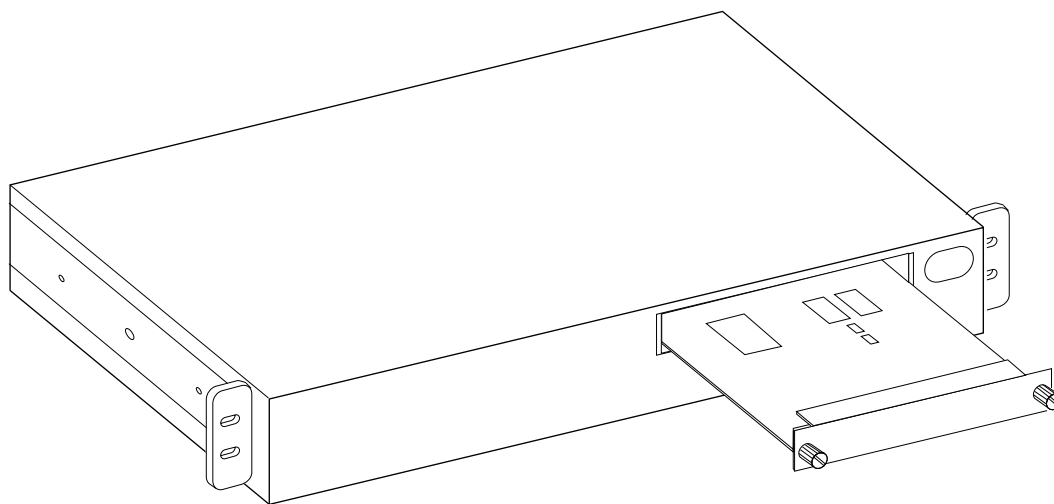

Figure 3. Installing a Universal Feature Card
- Step 3** Insert the card into the rails on each side of the UFC slot carefully, sliding it back until the the connector on the card is seated in the connector at the back of the slot. See Figure 3. When the card is fully seated, the UFC faceplate will rest against the front of the base machine.